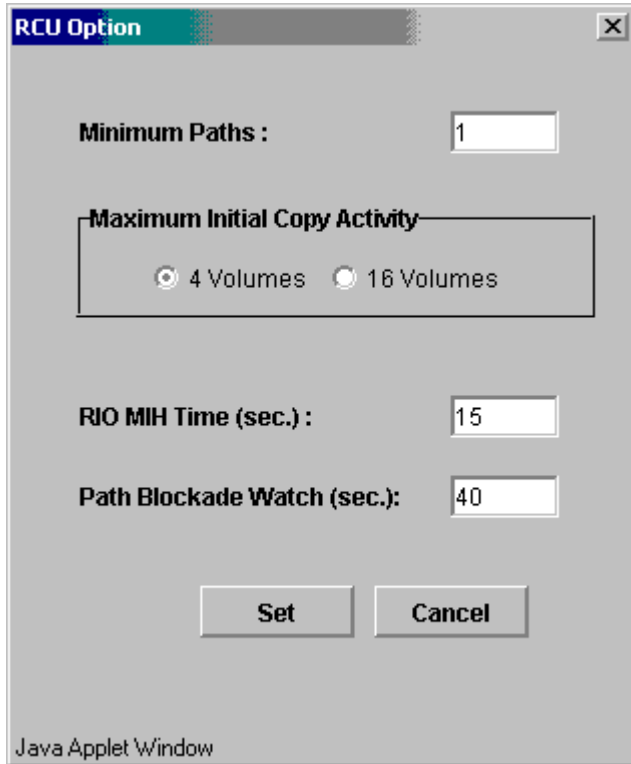

Figure 4.14 RCU Option Panel
The RCU Option panel (see Figure 4.14) allows you to set the RCU options for the connected MCU. The RCU options apply to all MCU CU images and to all RCUs connected to the MCU. The RCU Option panel is presented during the add RCU process, and can also be opened by right-clicking on the RCUs and selecting the **RCU Operation**→**Change RCU Option** command.
2. Right-click on the RCU list (you do not need to select anything), select **RCU Operation**, and select **Change RCU Option** to open the RCU Option panel (refer to Figure 4.14).